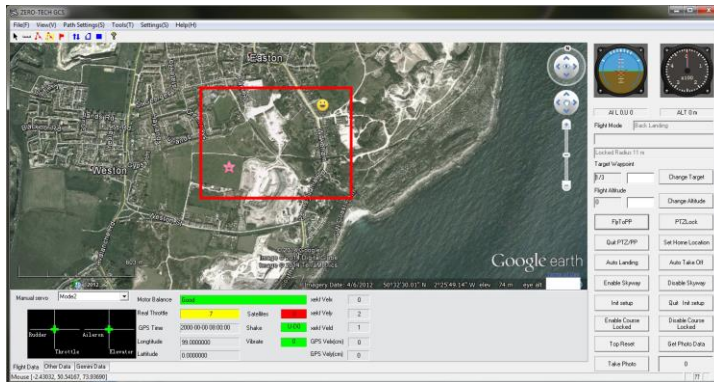

Figure 56
3. Click a target point, the yellow round smiling face will move to the point and the covered purple star will be exposed, as shown in Figure 56.